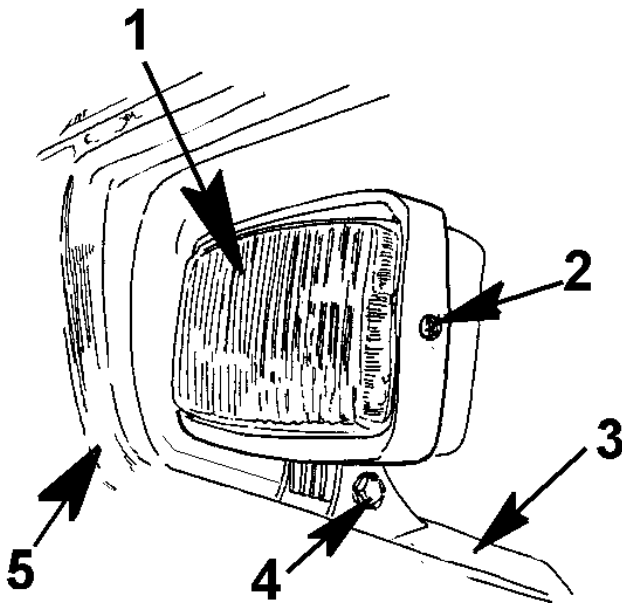

Figure 63 Fog Light Assembly
6. Locate and remove lens ring screws (Figure 63, Item 3) to gain access to fog light bulb.
1. Align and insert fog light assembly in mounting bracket. Install flat washer and lock nut, finger tighten. Adjust the fog light direction and tighten mounting bolt (Figure 63, Item 4).